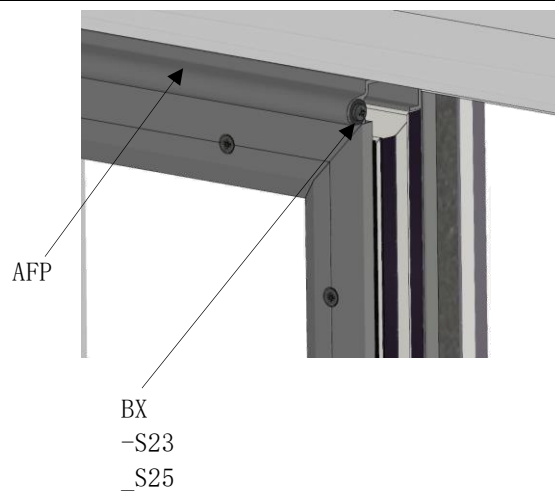

fig. 139
- mount the side window (item DF) on both sides in the groove of the profile of the side window (AFP) using 2x washers (item S23) and 2x pan-head screws (item S24). (fig. 139)